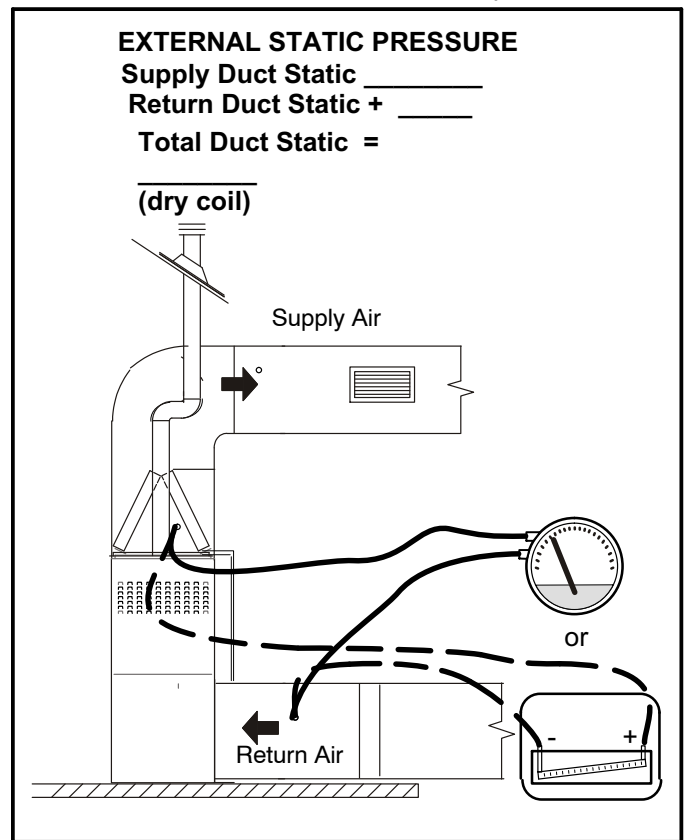

FIGURE 18
- 1 - Tap locations shown in figure 18 .